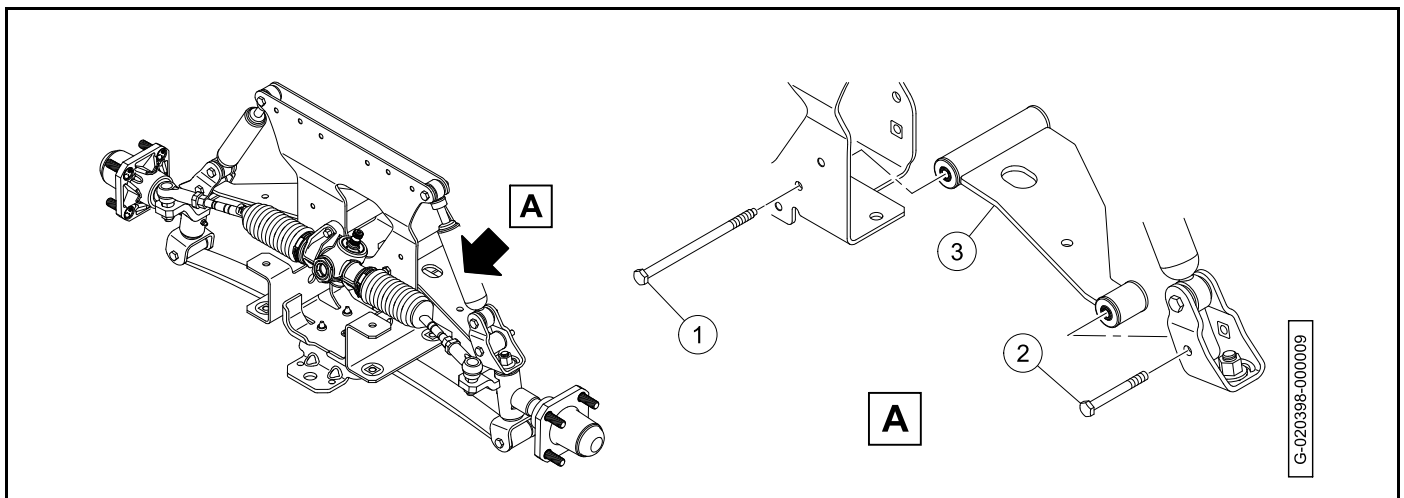

Figure 7-31
5. Move the rack and pinion (2) to allow clearance for the control arm bolts.
6. Remove the bolts (1 and 2) (Figure 7-31).